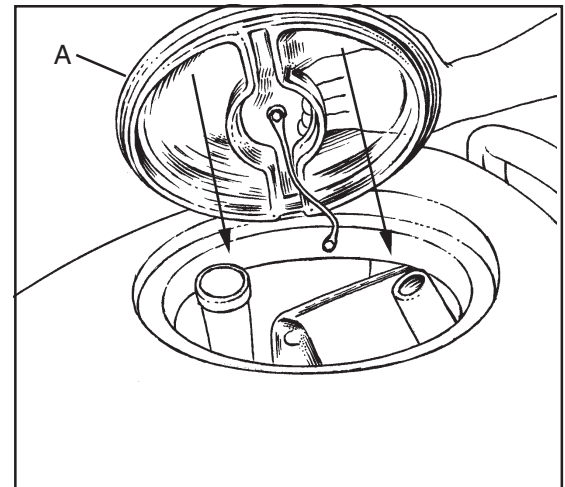

Figure 23
5. Make sure the recovery tank lid is on correctly. See figure 23, Item A.